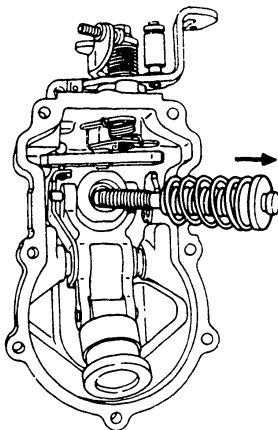

Fig. 104 Removing the governor shaft and springs
4. As the governor shaft is screwed directly into the cover, loosen and remove it together with the governor springs. (Fig. 104)